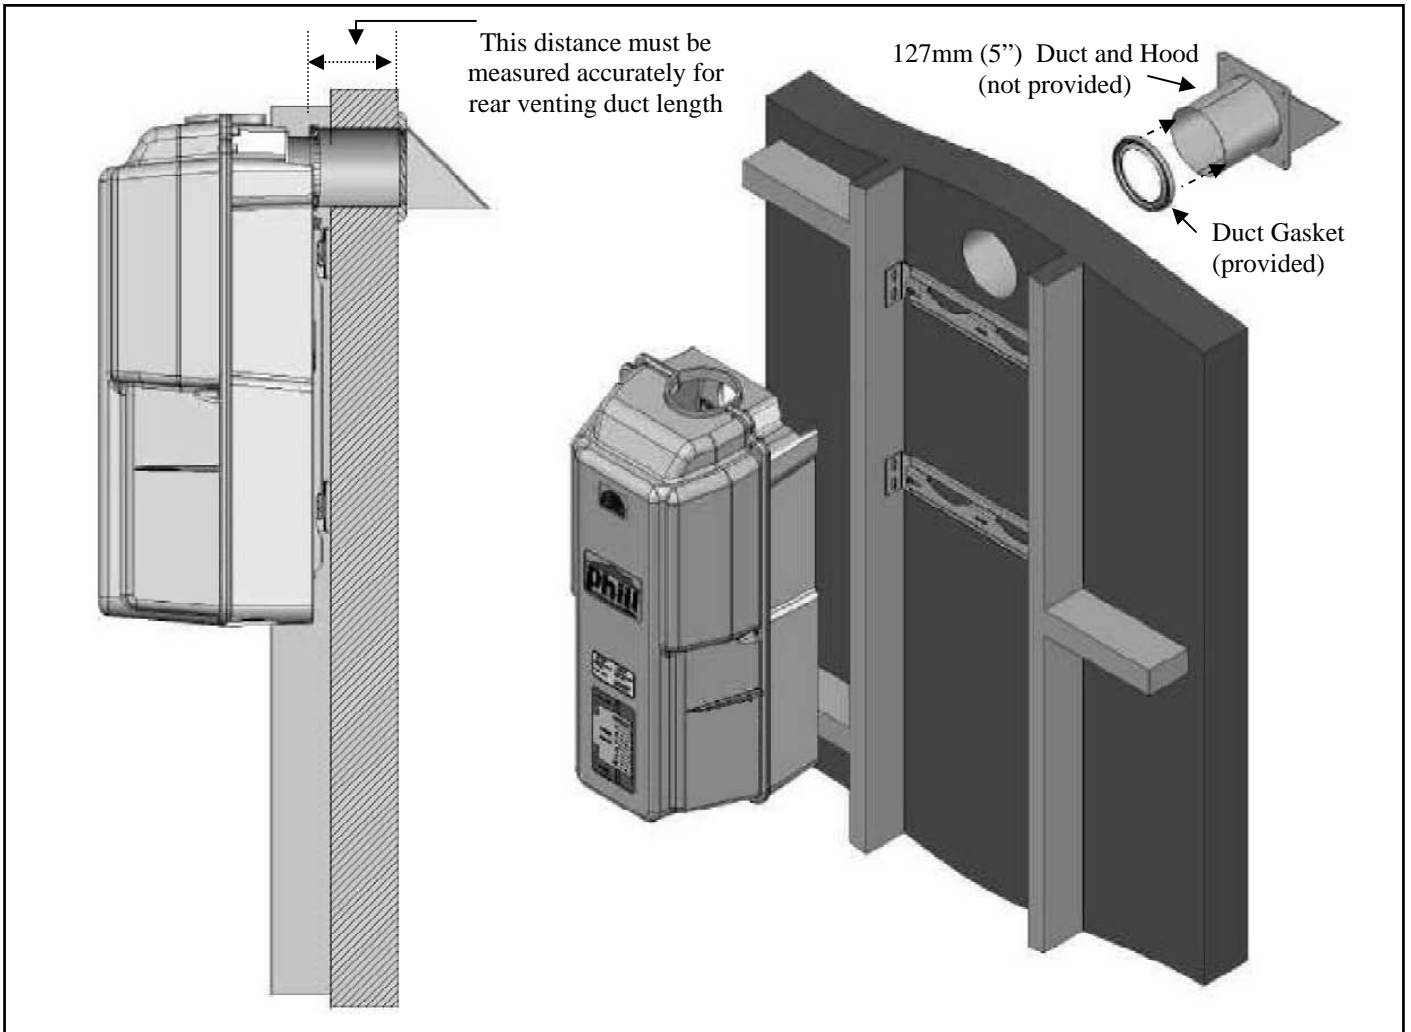

Figure 12 Rear venting
2. Measure the length of the exhaust duct required so that it overlaps the flange on the back of *Phill* and the duct hood sits flush against the outside wall. (see Figure 12) Trim duct to the measured length. Place the duct gasket provided around the end of the 127 mm (5") duct.